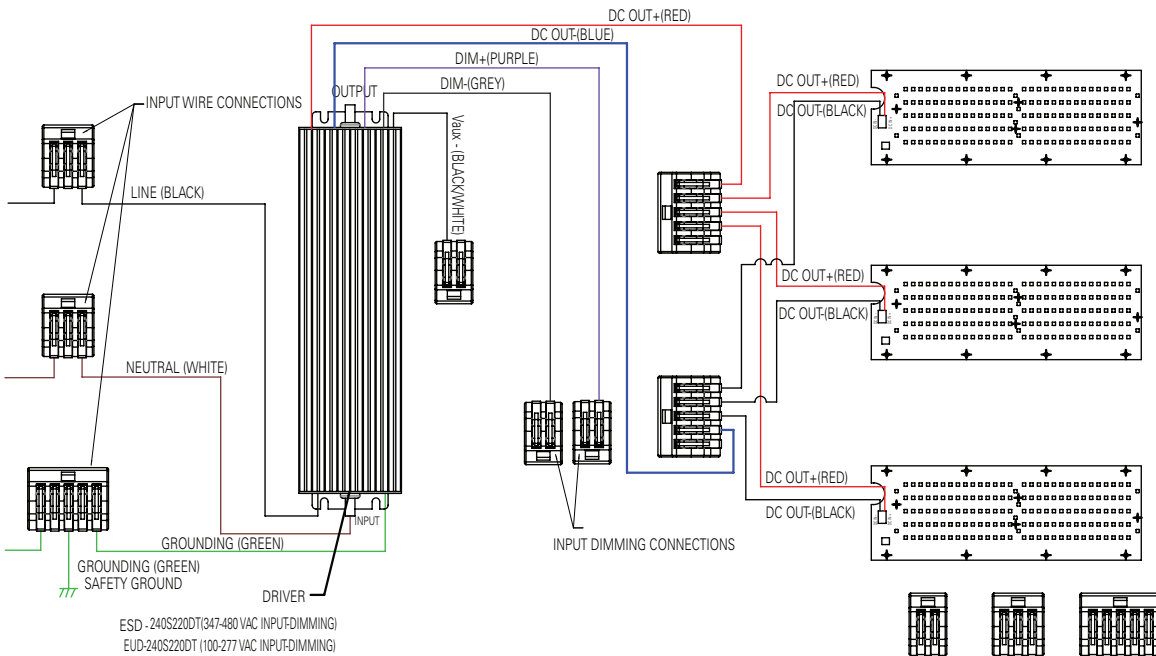

Figure 6A – Wiring Diagram (25L)
4. Make required connections for input power and dimming (if applicable). For wiring diagrams, see Figures 6A or 6B depending on the model.